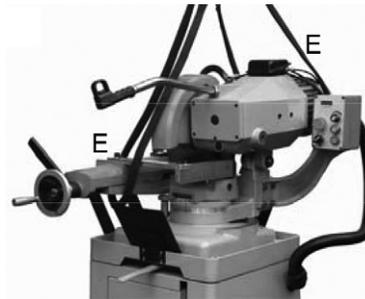

Figure 11 - Positioning the machine.
- Take out the machine from the package to the intended working location by hoisting with the belts. The load capacity is about 550 lb. at point E, see figure 11.
Use a sling. Carefully wrap the sling around the collar of the moveable jaw and motor mount (E), see figure 11.